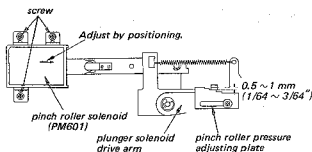

Fig. 3-8. Pinch roller solenoid (PM601) position adjustment
1. Loosen the three solenoid holding screws, shown in Fig. 3-8.